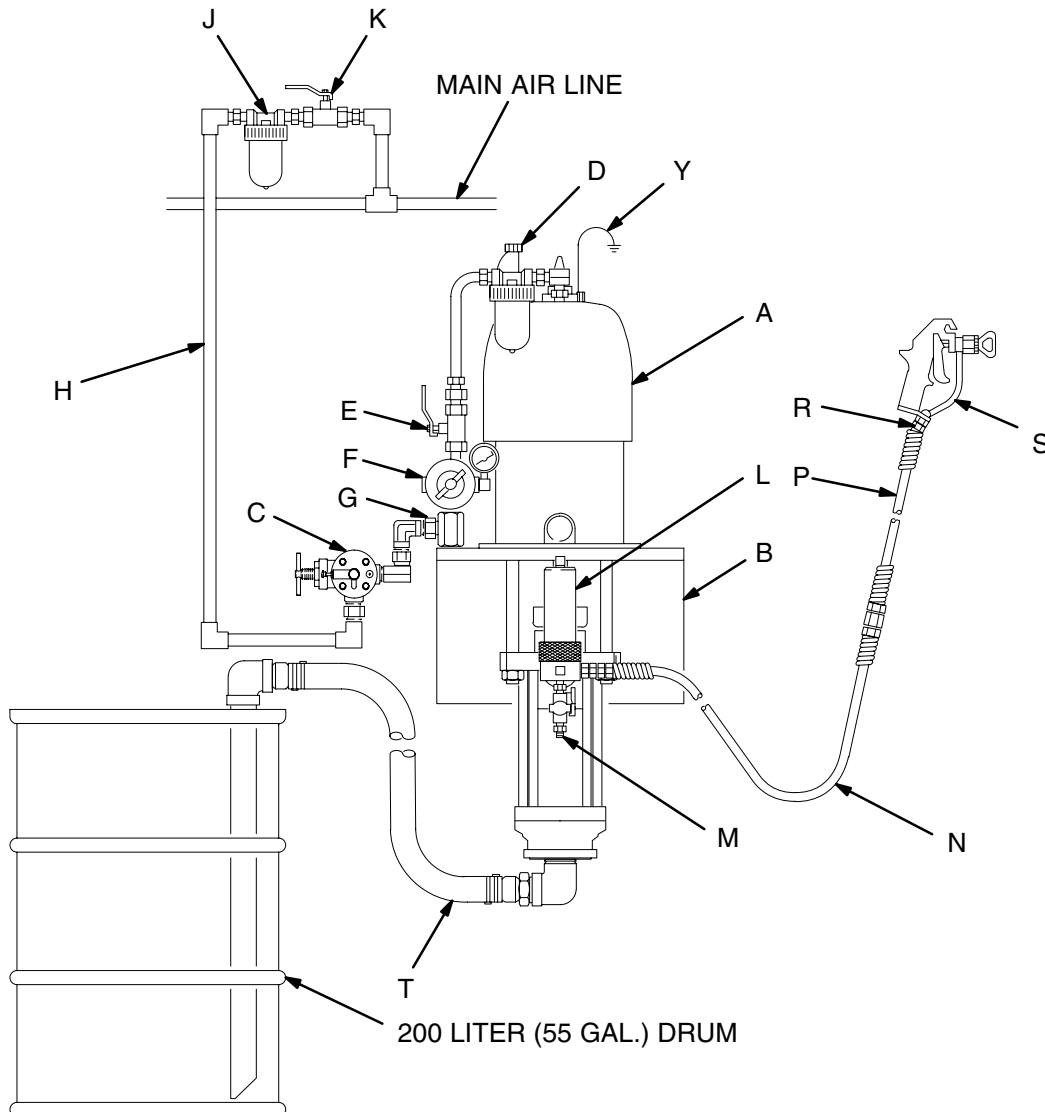

Fig. 3
Fig. 3 is only a guide for selecting and installing system components and accessories. Contact your Graco distributor for assistance in designing a system to suit your particular needs.
Mount the pump (A) to suit the type of installation planned. Fig. 3 illustrates a wall-mounted system. Pump dimensions and the mounting hole layout are shown on pages 40 and 41.
Install the following accessories in the order shown in Fig. 3, using adapters as necessary:
Install the following accessories in the positions shown in Fig. 3, using adapters as necessary:
- A fluid filter (L) with a 60 mesh (250 micron) stainless steel element, to filter particles from the fluid as it leaves the pump. It includes a **fluid drain valve (M)**, which is required in your system to relieve fluid pressure in the hose and gun (see the **WARNING** at left).
- A gun or valve (S) dispenses the fluid. The gun shown in Fig. 3 is an airless spray gun for light to medium viscosity fluids.
- A gun swivel (R) allows freer gun movement.
- A suction kit (T) allows the pump to draw fluid from a 200 liter (55 gallon) drum.
- **A fluid filter (L)** with a 60 mesh (250 micron) stainless steel element, to filter particles from the fluid as it leaves the pump. It includes a **fluid drain valve (M)**, which is required in your system to relieve fluid pressure in the hose and gun (see the **WARNING** at left).
- **A gun or valve (S)** dispenses the fluid. The gun shown in Fig. 3 is an airless spray gun for light to medium viscosity fluids.
- **A gun swivel (R)** allows freer gun movement.
- **A suction kit (T)** allows the pump to draw fluid from a 200 liter (55 gallon) drum.